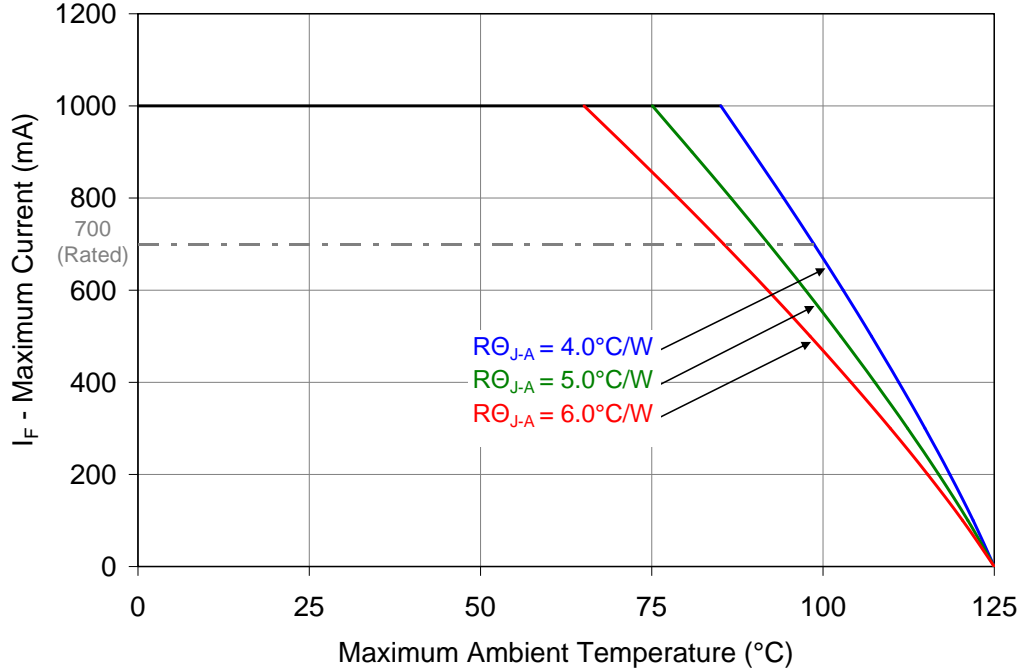

Figure 10: Maximum forward current vs. ambient temperature based on T_J(MAX) = 125°C.
- Maximum DC forward current (per die) is determined by the overall thermal resistance and ambient temperature. Follow the curves in Figure 10 for current derating.
Notes for Figure 10: